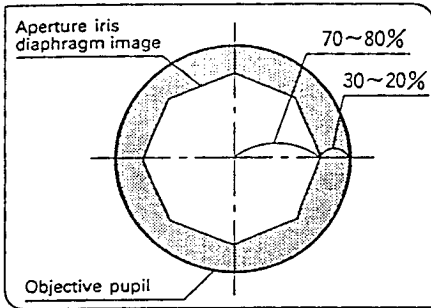
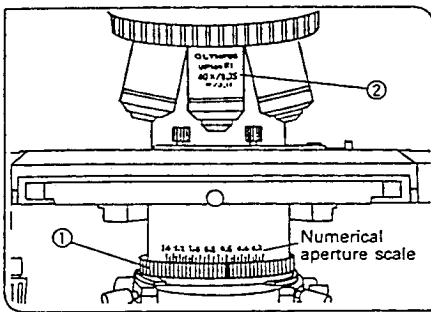

Fig. 53
Fig. 54
Aperture Iris Diaphragm (Figs. 53, 54)
- Since the contrast of microscope specimens is ordinarily low, setting the condenser aperture iris diaphragm to 70-80% of the N.A. of the objective in use is usually recommended. When necessary, adjust the ratio by removing the eyepiece and looking into the eyepiece sleeve while adjusting the aperture iris diaphragm ring ① until the image shown in Fig. 53 is seen.
④ Using the Numerical Aperture Scale
Set the condenser numerical aperture scale ① to about 80% of the NA value ② indicated on the objective. (Fig. 54)